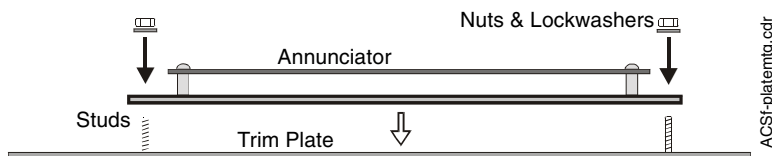

Figure 10 Assembling Trim Plate and Annunciator
3. Place the trim plate face down, with the threaded studs facing up. Position the annunciator and expander(s) over the threaded studs on the trim plate and secure each with the two nuts and lock washers provided (see Figure 10 on page 29). Tighten securely.